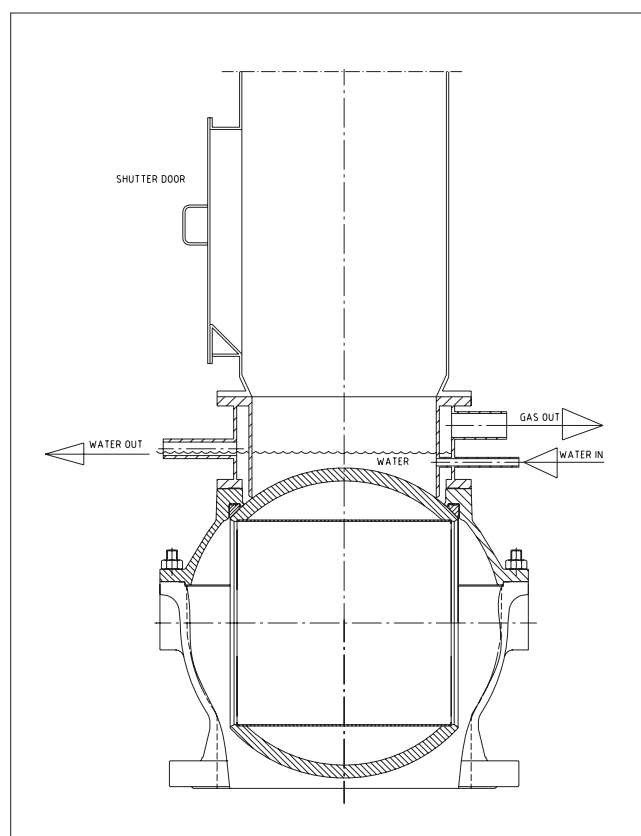

Fig. 3.
B) Valve is delivered with separate water flushing unit (figure 3). Unit has option for gas collecting pipe.